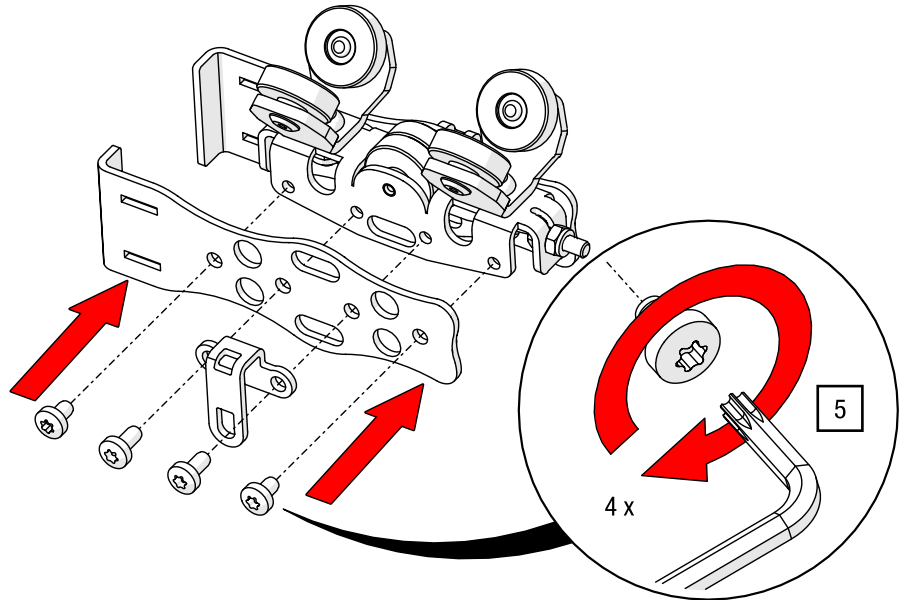

Fig. 65: Master runner with add-on brake – Side plate and eyelet plate mount
4. Position one side plate with a lateral eyelet plate on the master runner and screw it tight using a TORX®-key T20 until it is flush with the master runner (see Fig. 65).